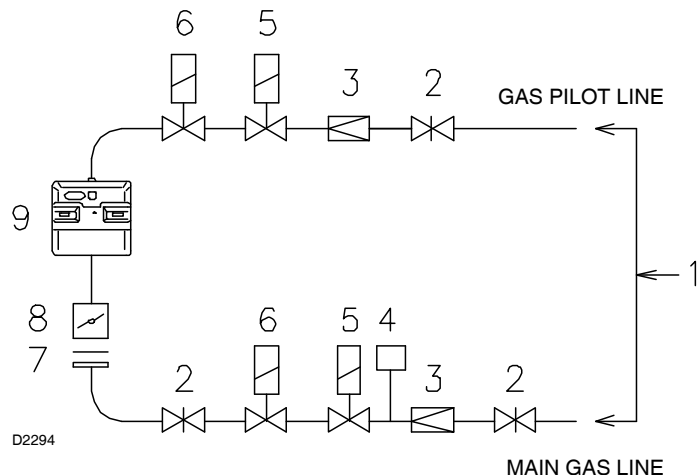

Fig. 18
Gas safety shut-off valves 5)-6)(Fig. 18) must be as close as possible to the burner to ensure gas reaches the combustion head within the safety time range.
- column 2: pressure loss at gas butterfly valve 8)(Fig. 18) with maximum opening: 90°.